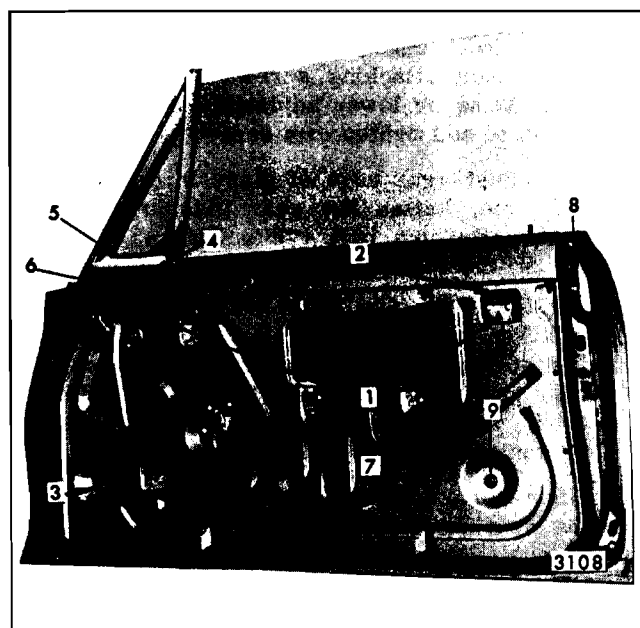

Fig. 6-99—Door Window Removal and Adjustment - "Z" Styles
2. Working through front and rear upper access holes, remove bolts securing front and rear up-travel stops to lower sash channel and remove stops ("1", Figure 6-99).
3. Lower glass to approximately 3" down from full-up position and remove lower sash channel cam attaching screws ("2", Figure 6-99).
stud nuts at points described below and illustrated in Figure 6-99.
1. To adjust the front door window up or down, loosen the front and rear up-travel stops ("1", Figure 6-99), and operate window to desired position. Then, position and tighten adjustable stops on sash channel against welded-on stops on front and rear run channels.
2. To rotate the glass in the opening (lower or raise front edge of glass), loosen the inner panel cam attaching screws ("7", Figure 6-99). Raise or lower adjustable end of cam as required and tighten cam screws.
3. To adjust rear edge of glass in or out at the belt line, loosen the rear glass run channel upper attaching bolt ("8", Figure 6-99) and adjust the run channel in or out as required.
4. To adjust the top edge of glass in or out in relation to side roof rail, loosen lower adjusting stud nut of vent division channel and rear glass run channel ("3" and "9", Figure 6-99). Adjust studs in or out as required, then tighten stud nuts.
5. Slight fore and aft adjustment is available at the vent division channel and rear glass run channel lower adjusting stud locations ("3" and "9", Figure 6-99).